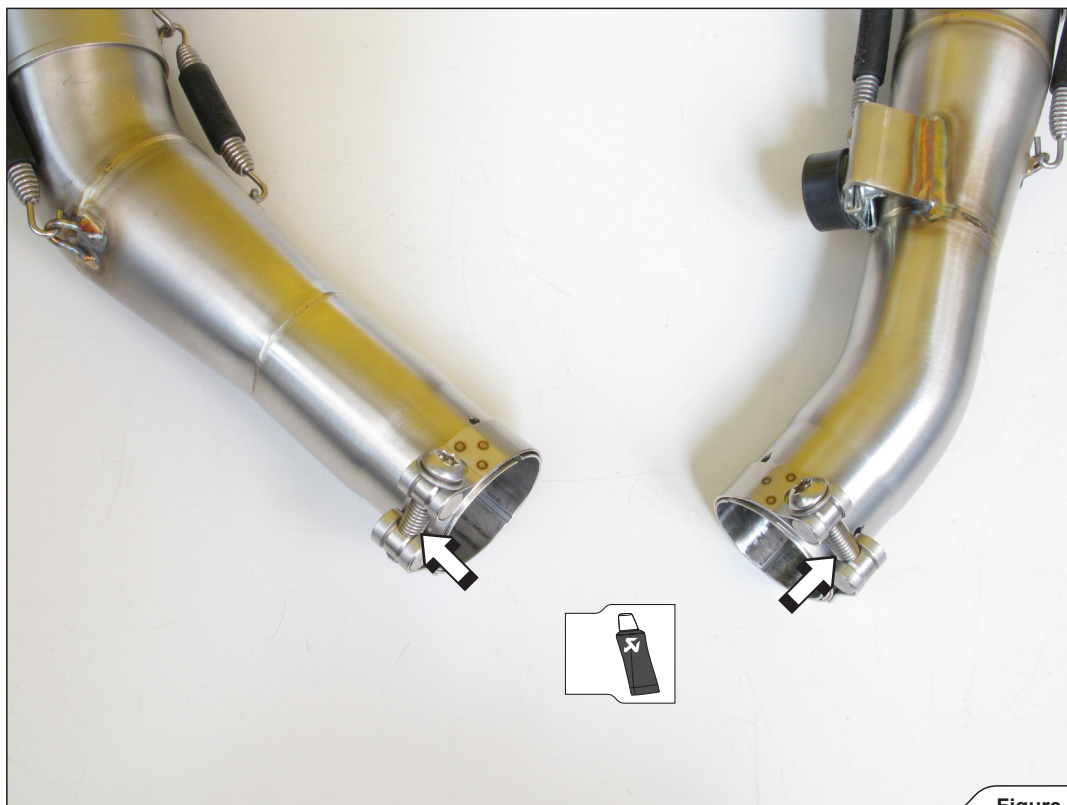

Figure 9
4. Correctly orient and install Akrapovič clamps onto both link pipes' inlets as shown (Figure 9).